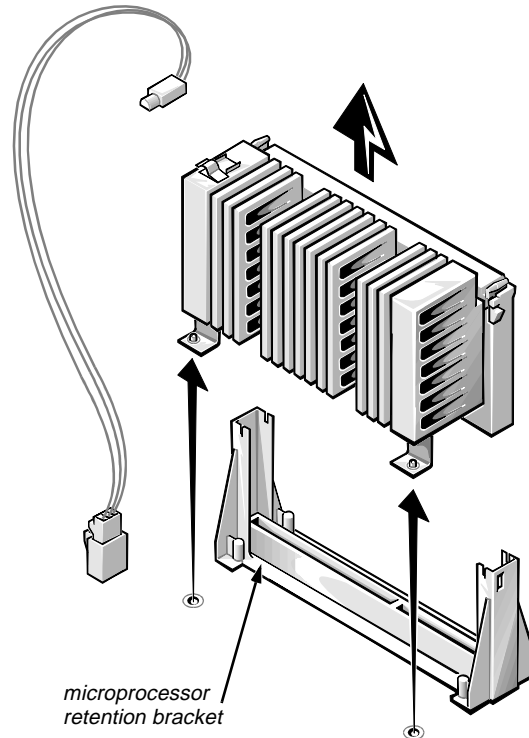

Figure 4-21. Removing a Microprocessor Module From the System Board
- d. Lift the microprocessor module straight up and out of the microprocessor retention bracket on the system board (see Figure 4-21).